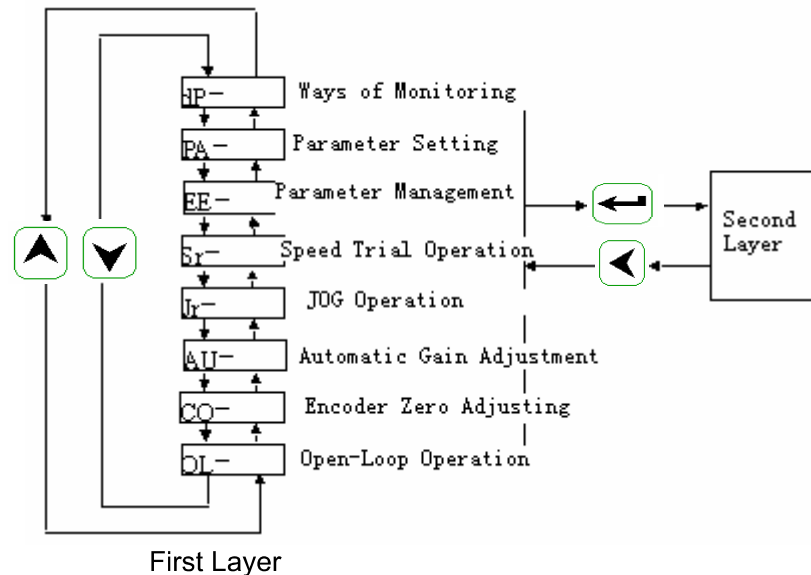

Fig. 6.1 Block Chart for Operation Mode Selection
- Operation is conducted according to multi-layer menu, in which the first layer is the main menu, including eight operation modes; the second layer is functional menu to the operation mode under first layer. Fig. 6.1 is a block chart for operations in the main menu, as shown in the following: